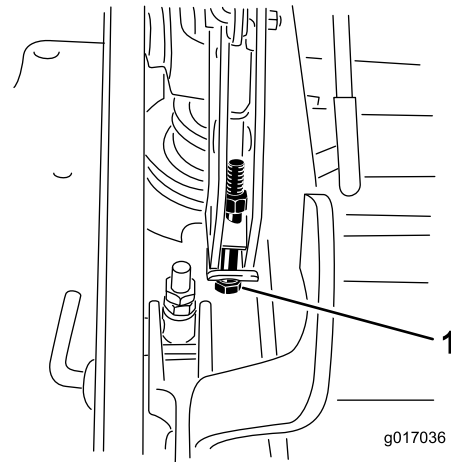

Figure 106
11. If the deck is too low, tighten the single-point-adjustment bolt by rotating it clockwise. If the deck is too high, loosen the single-point-adjustment bolt by rotating it counterclockwise (Figure 106).